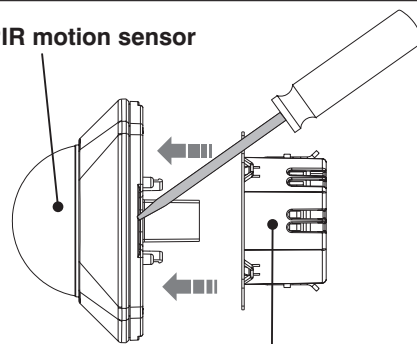

FIG. 1 Circuit device with terminals (semi-recessed mounting in the ceiling)
- Separate the PIR motion sensor from the part of the circuit with a flathead screwdriver (FIG. 1).